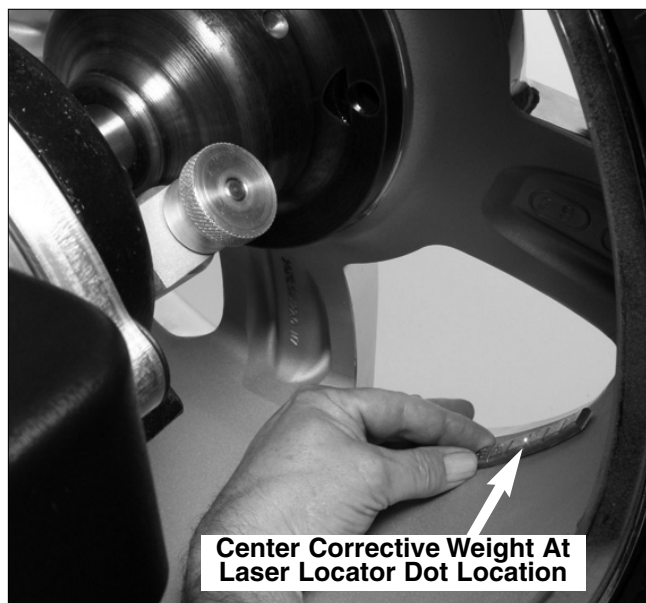

Figure 11 - Centering Corrective Hidden Weight At Laser Locator Dot Location
8. Center and attach the outboard (right plane) corrective weight at laser locator dot location as shown in figure 11.